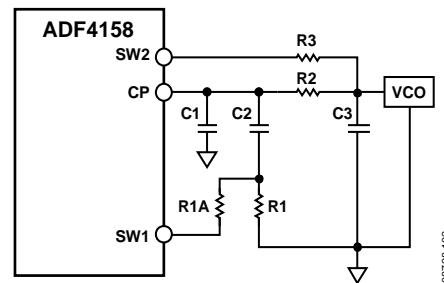

Figure 47. Fast-Lock Loop Filter Topology—Topology 2
- Connect an extra resistor (R1A) directly from SW1 (see Figure 47). The extra resistor must be selected such that the parallel combination of an extra resistor and the damping resistor (R1) is reduced to ¼ of the original value of R1.